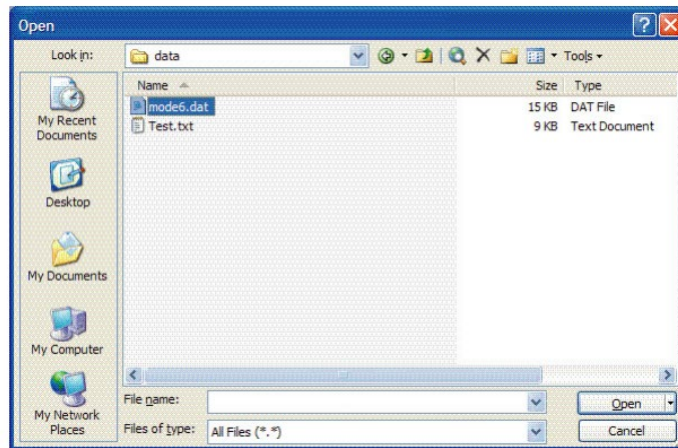

Figure 9. Opening a data file in Excel
1. In Excel, click Open and choose the name of the spectrum file saved while in Mode 6. Be sure to select All Files (*.*) under Files of type: while searching, as shown in Figure 9.